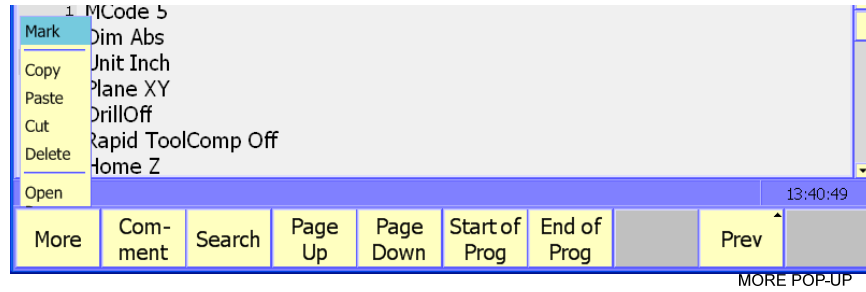

Figure 5-9, Misc (F9)>More (F1) Pop-up Menu
In conversational editor, use the **Misc (F9)>More (F1)** soft key to display the More pop-up menu. See **Table 5-1** for a description of the features. See **Figure 5-9**. To display the More pop-up menu:
2. Press **F1 (More)** to display the More pop-up menu. Refer to **Figure 5-9, Misc (F9)>More (F1) Pop-up Menu**.